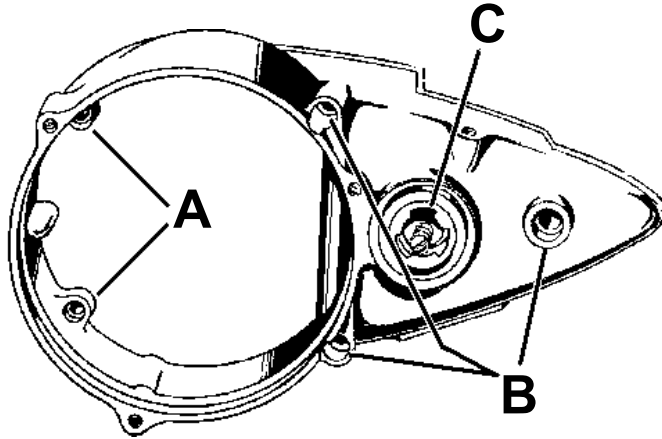

Fig. D6.
On machines with Wico-Pacy equipment, two short screws inside at (A), and three long screws outside at (B) Fig. D6, secure the alloy flywheel housing cover in position.
With the cover removed the rear drive sprocket and gear position indicator are revealed. This indicator is not fitted to later models, its place being taken by a thrust pad, part number 90-0759. On the inside of the cover is the clutch push rod operating lever, mounted behind the adjusting screw (C) Fig. D6.
The flywheel generator alloy cover (Fig. D6), carries the clutch actuating lever and quick-action screw, part number 90-0180. If this mechanism needs attention, remove the metal cover, part number 90-0106, which acts as a dust cover to the clutch lever actuating screw, then remove the extension spring, part number 19-0122 from the actuating lever and press out the lever and screw from the case. In the centre of the screw is a steel ball, adjusting screw, part number 90-0105, and locknut, part number 89-0366.